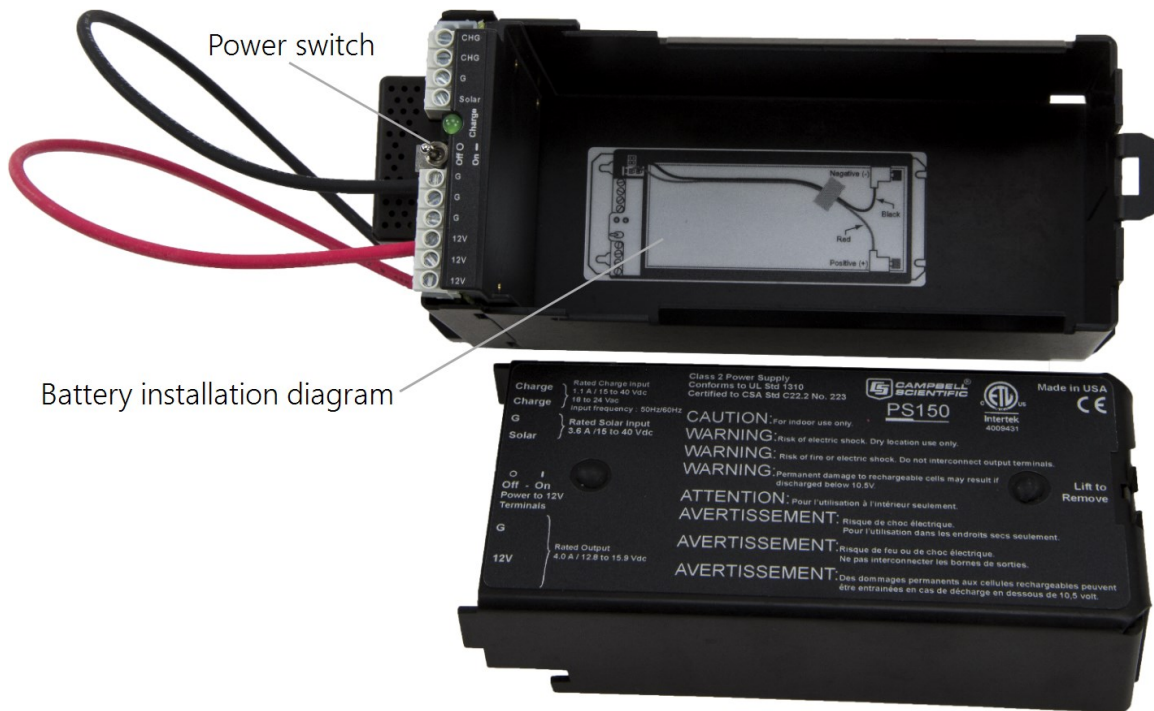

FIGURE 6-44. PS150 with lid open
1. Move the PS150 power switch to the **OFF** position (FIGURE 6-44 (p. 61)).
2. Remove the cover from the PS150 by sliding the latch up at one end of the cover and sliding the cover down and out (FIGURE 6-44 (p. 61)).
3. Install the battery according to the diagram (FIGURE 6-44 (p. 61)).